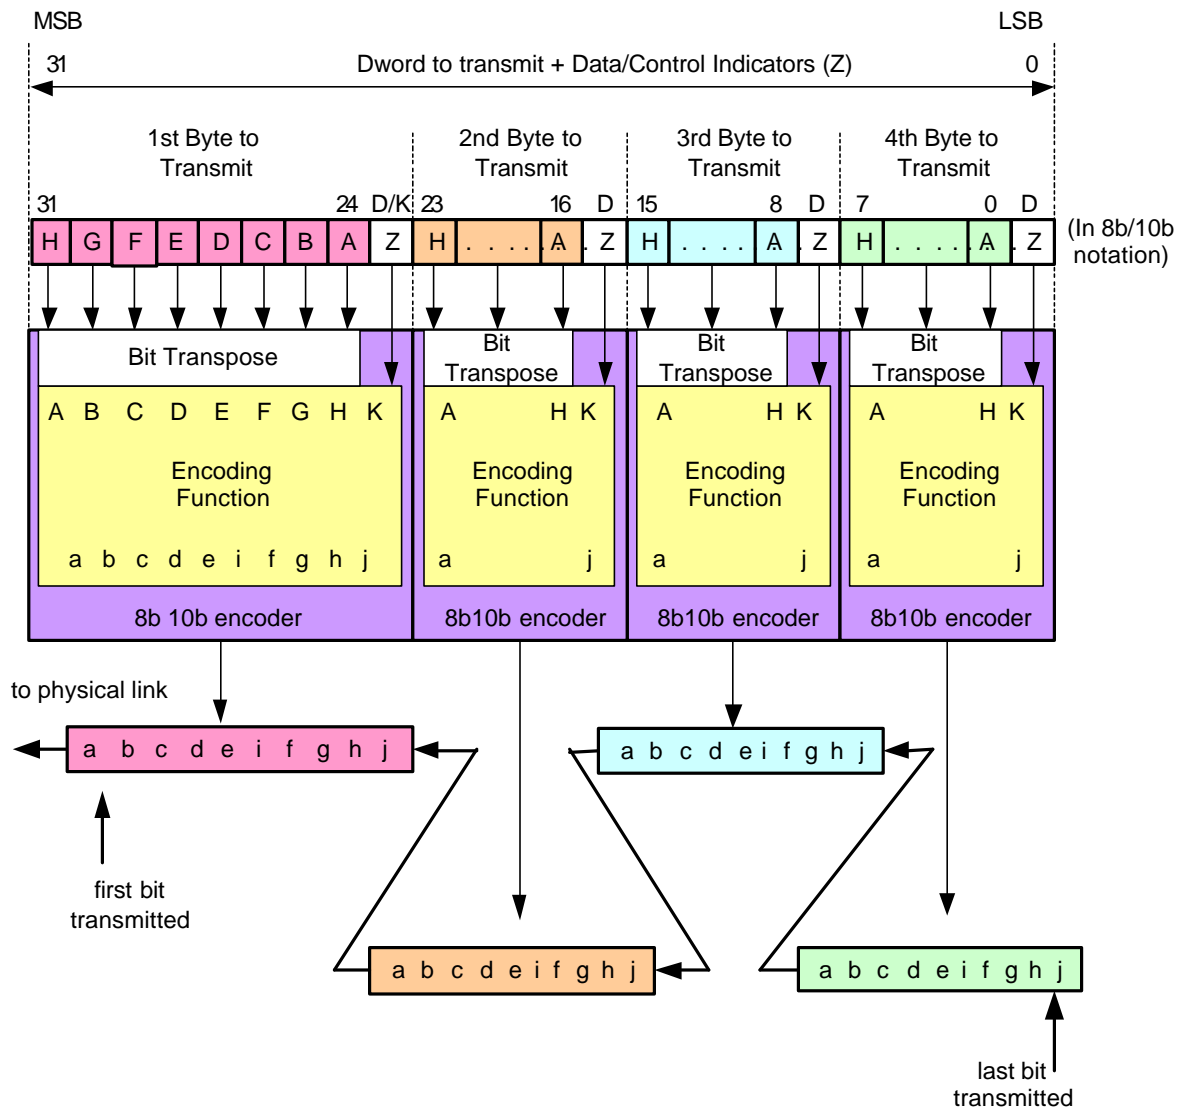

Figure 35 – SAS bit transmission logic
Figures 35 and 36 in sas-r02a show bit transposition logic required *prior* to 8b/10b encoding and *after* 10b/8b decoding. While bit transposition within a byte is actually required for 8b/10b encoding and decoding as defined by the original 8b/10b encoding patent, the bit transposition is done *inside of* the 8b/10b encoder and 10b/8b decoder, *not outside of* them, as depicted in the current figures. This document proposes a modification to Figures 35 and 36 in order to better correlate them to Tables 22 and 24, as well as to show that one does not have to perform a bit transposition on an 8-bit value prior to looking up the associated 10b encoding in Table 24.
- 1) Figures 35 and 36 show bit transposition being done within each byte of a dword outside of the 8b/10 encoding/decoding logic. Propose that these diagrams get replaced with the following diagrams: